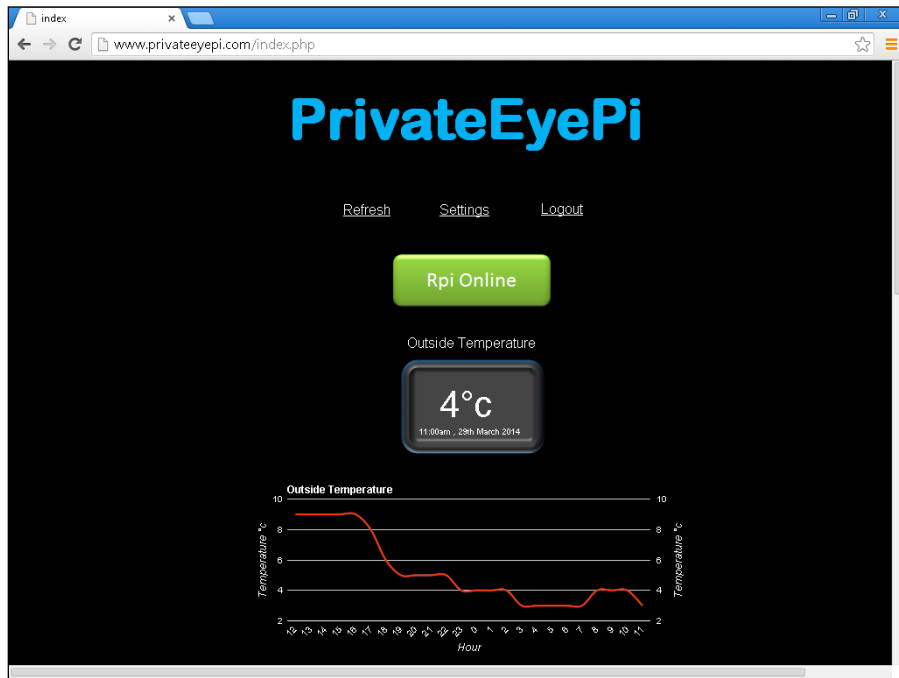

Figure 10-18:
2. Click the **Add** button and configure a rule and action as shown in Figure 10-18.